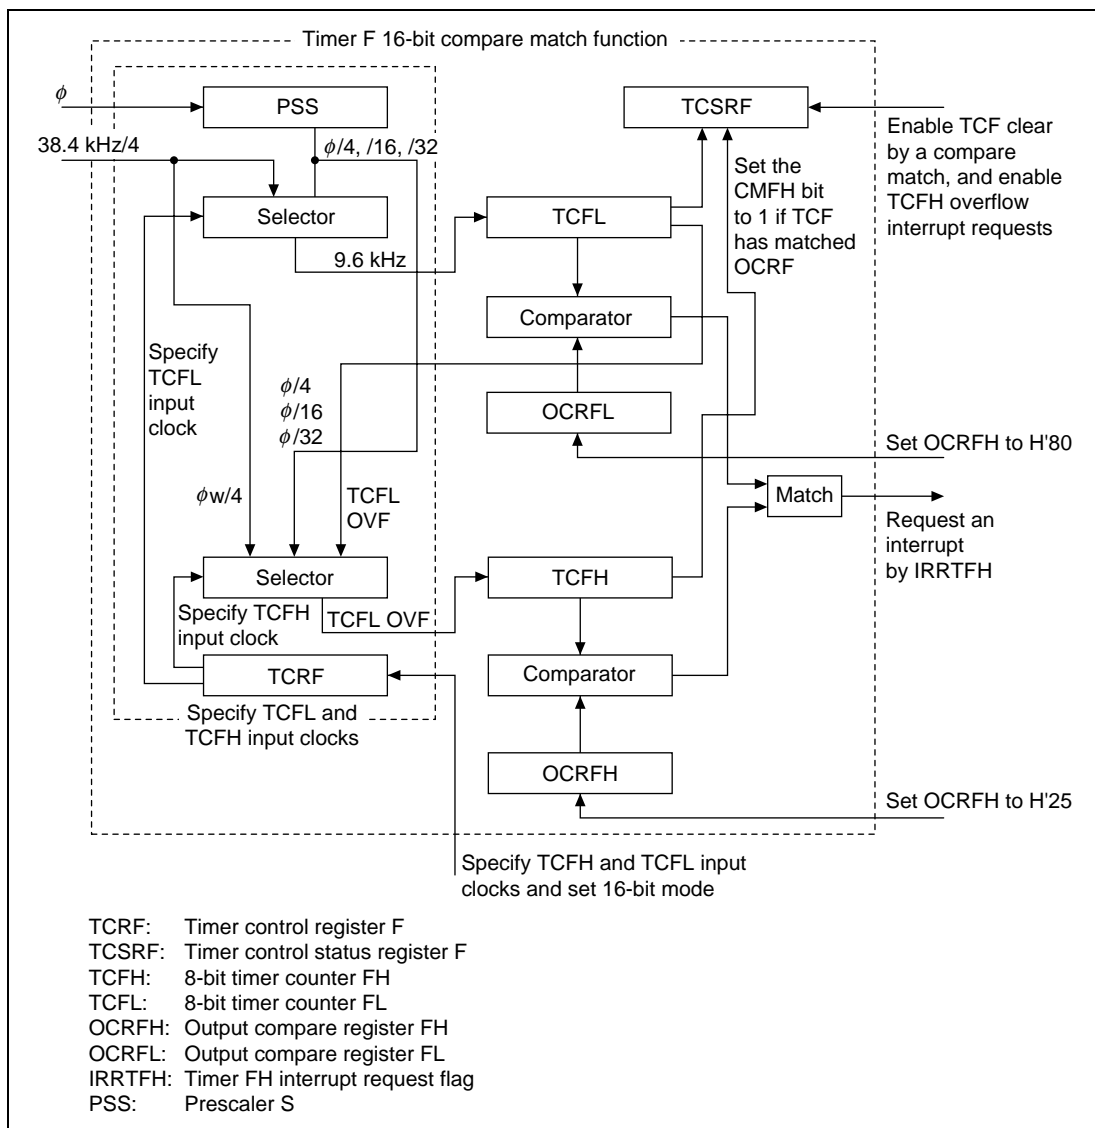

Figure 2 Block Diagram of Timer F 16-Bit Compare Match Function
2. Figure 2 shows a block diagram of the timer F 16-bit compare match function used in this task example.